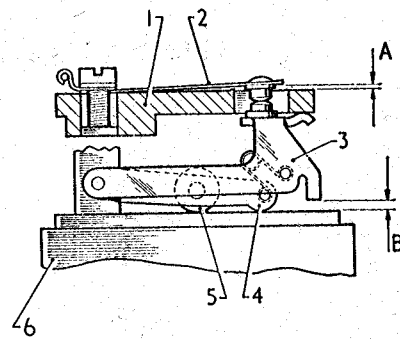

Fig. 13. The rocker finger settings on modified rocker assemblies
pedestal (A) (Fig. 13) with a feeler gauge, bending the stop-finger beneath the pedestal, if necessary, to obtain a lift of $.035 \pm .005$ in. ($.9 \pm .13$ mm.).
29. Check the gap between rocker finger and coil housing (B) (Fig. 13) with a feeler gauge, bending the stop-finger, if necessary, to obtain a gap of $.070 \pm .005$ in. ($1.8 \pm .13$ mm.).